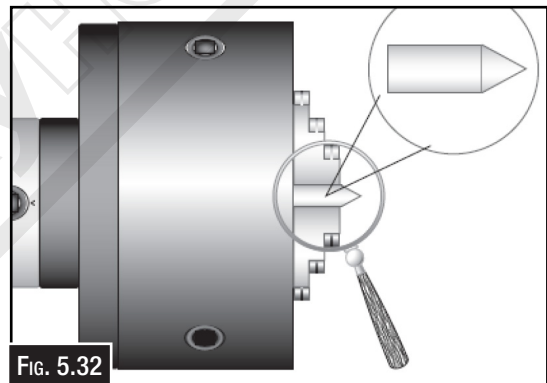

Fig. 5.32
2. Make a dead center by turning a shoulder to make a shank. Flip the piece over in the chuck and turn a 60° point (Fig. 5.32). As long as it remains in the chuck, the point of your center will be accurate to the spindle axis.